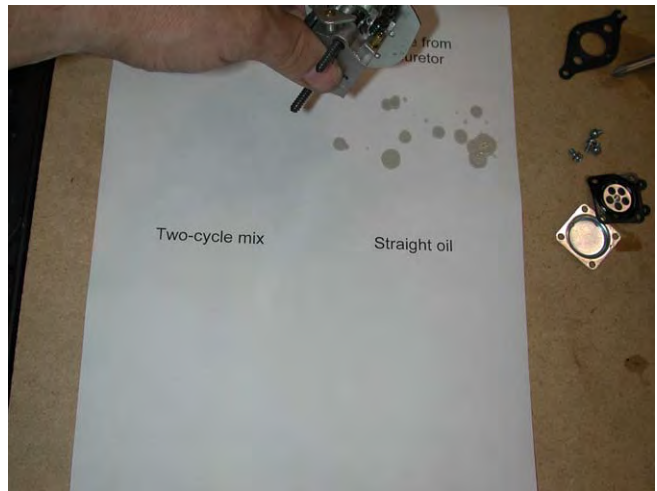

Figure 5.1
3. Get a sample of fuel from the carburetor and pour it on the section of the paper labeled sample from carburetor. See Figure 5.1.